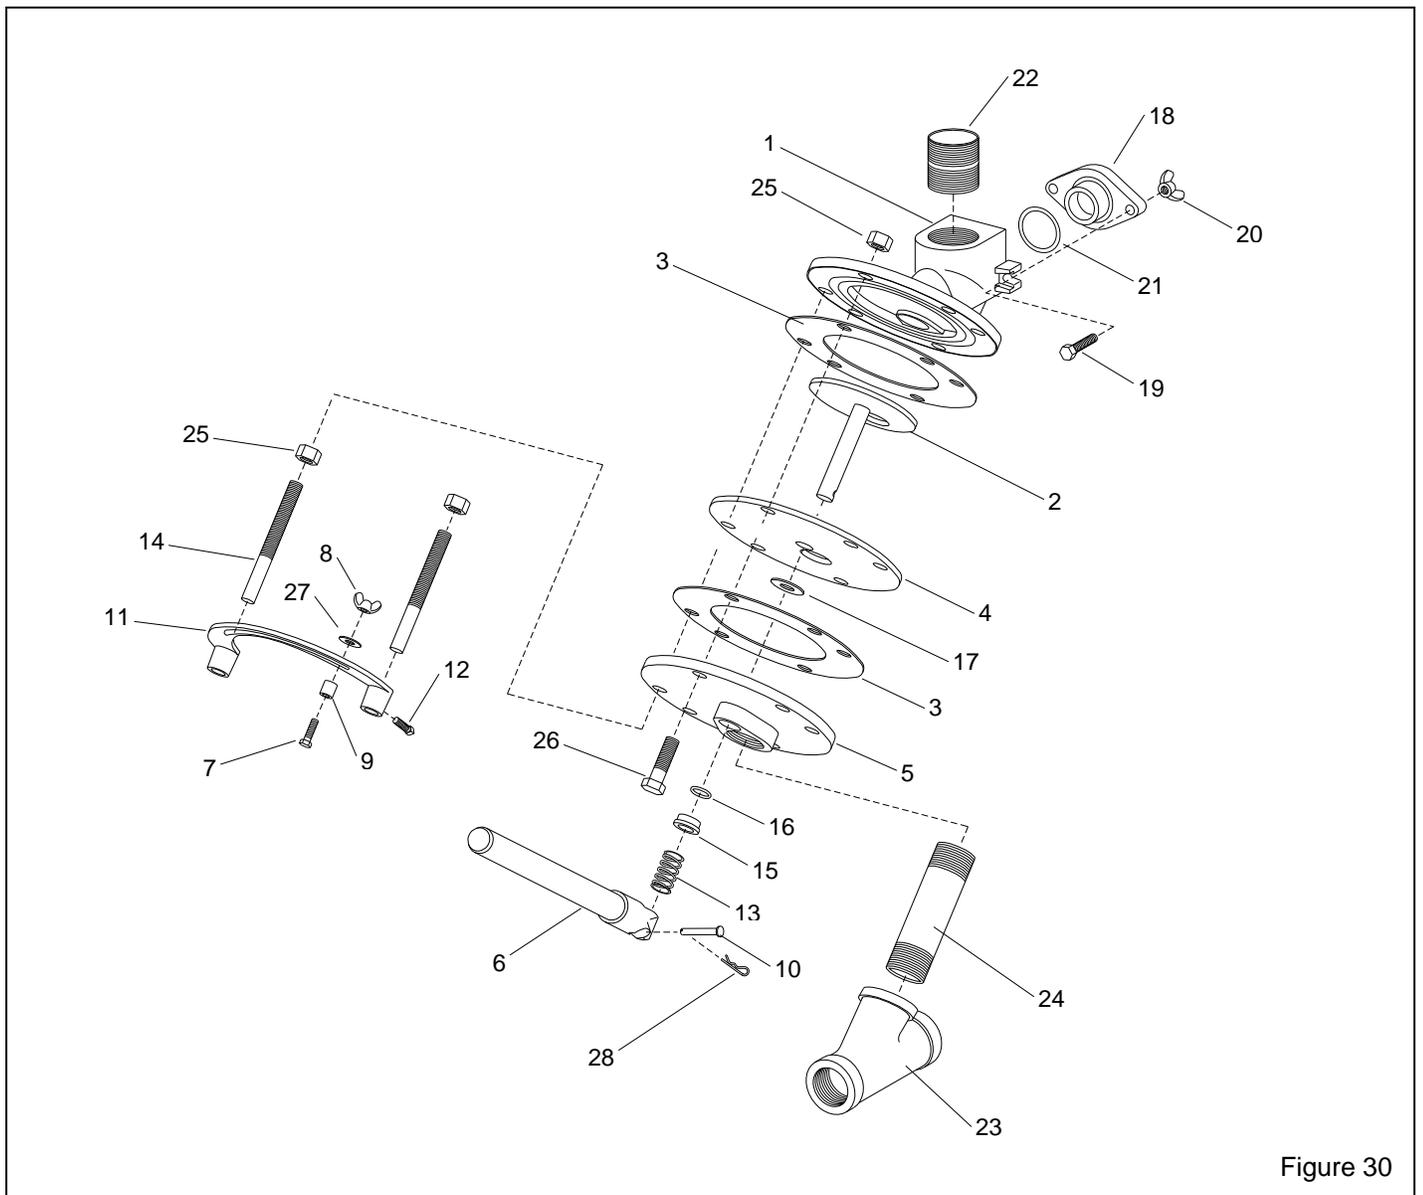

Figure 30
8.6 FSV Abrasive Metering Valve, Figure 30